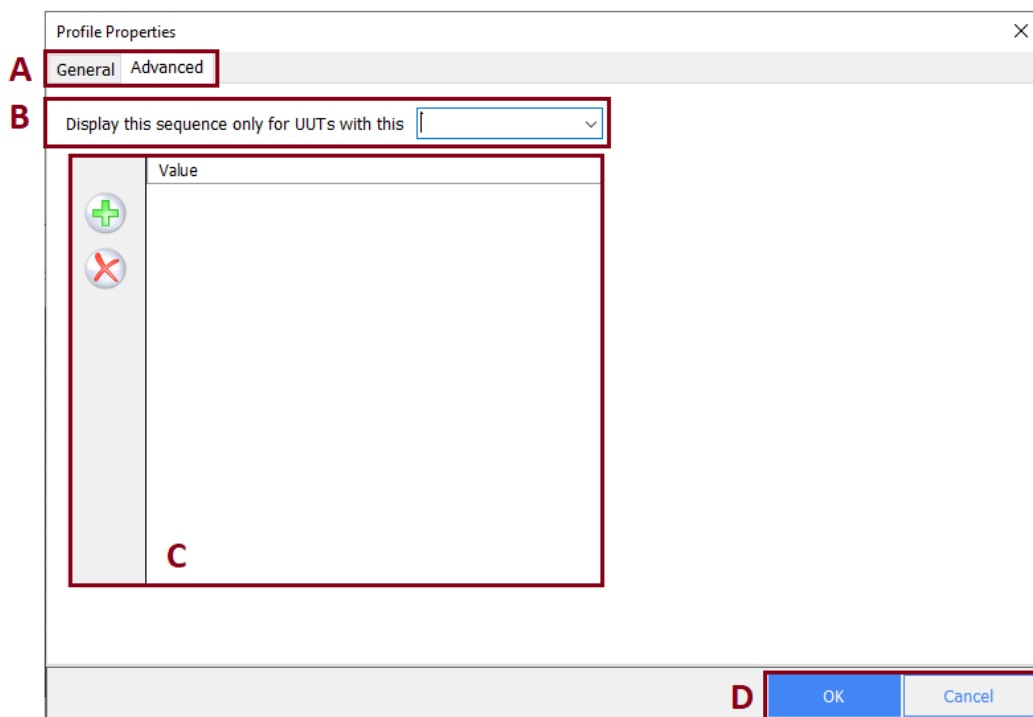

Fig 10-3 Profile Properties – Advanced tab screen
3.1. Display this sequence only for UUTs with this - Fig 10-3 \(B\)
A new row is added to the properties value area Fig 10-3 \(C\).